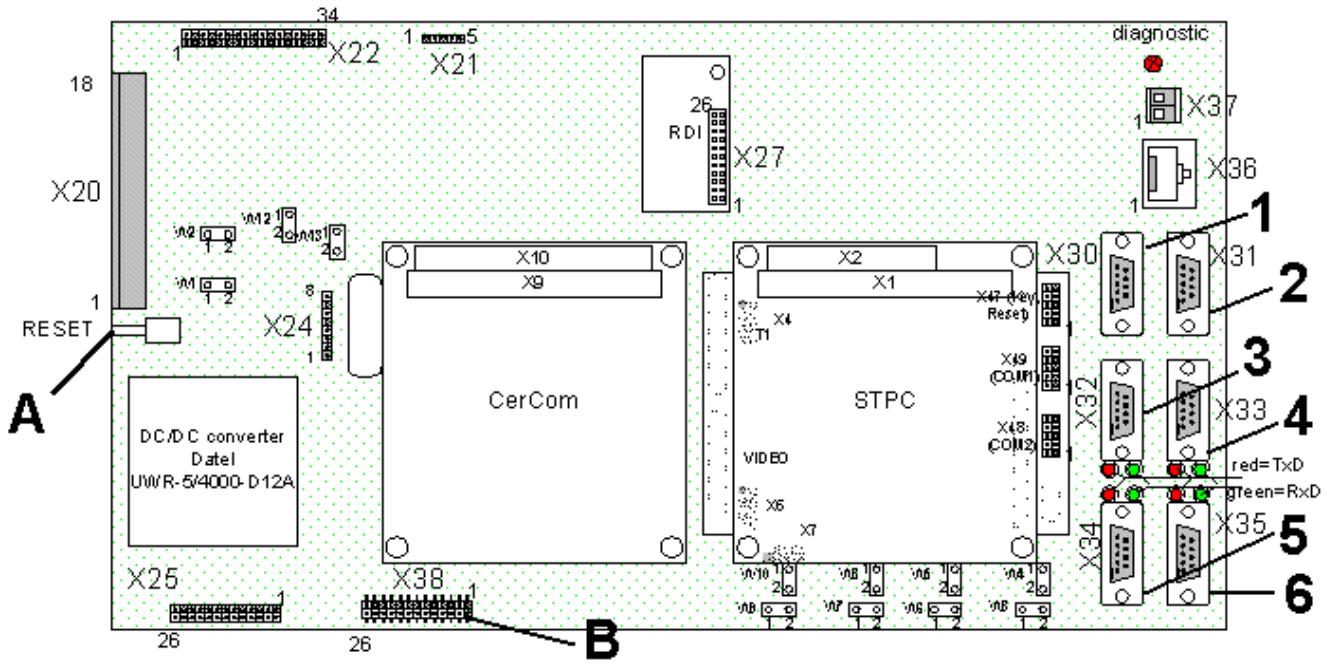

Fig. 19 MT8001 Unit – keyboard port and manual reset button
2. Connect a standard PC keyboard to the X38 connector of the MT8001 using the special adapter (see Fig. 19 on page 28).
3. Manually reset the MT8001 as shown in Fig. 19 and allow the operating system to finish starting up.